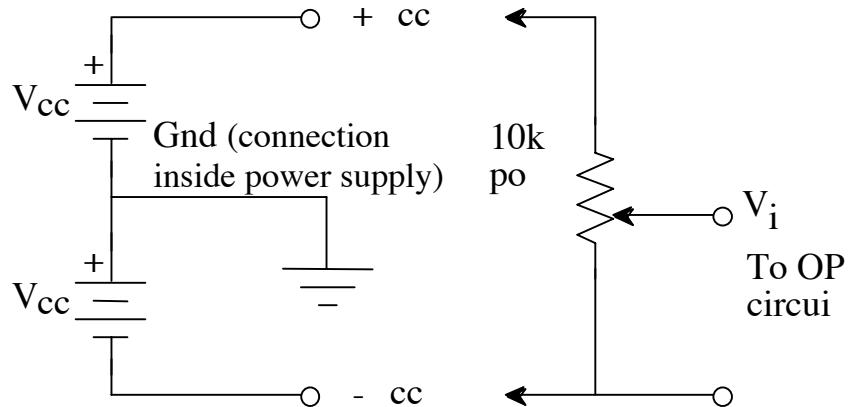

**Figure 1: OpAmp and Potentiometer Power Supply Configuration**
1. The schematic below (Figure 1) shows a standard  $\pm V_{CC}$  configuration for an OP AMP bipolar power supply. The schematic symbols for batteries are used in Figure 1 to indicate that the power supplies need to be a constant DC voltage. **+Vcc and -Vcc are POWER SUPPLY CONNECTIONS for both the OpAmp and for the potentiometer.**
Note that the common output of this power supply is generally not internally connected to the ground (green output terminal). It is often necessary to connect the “common” output to the ground of the power supply with banana plug leads. This connection prevents power supply voltages from “floating” and causing inaccurate measurements. As shown in Figure 1, the connection labeled "Gnd" between the  $V_{CC}$  supplies is used as the circuit ground. This corresponds to the common (COM) binding post that you will also connect to the green grounding binding post on your power supply.